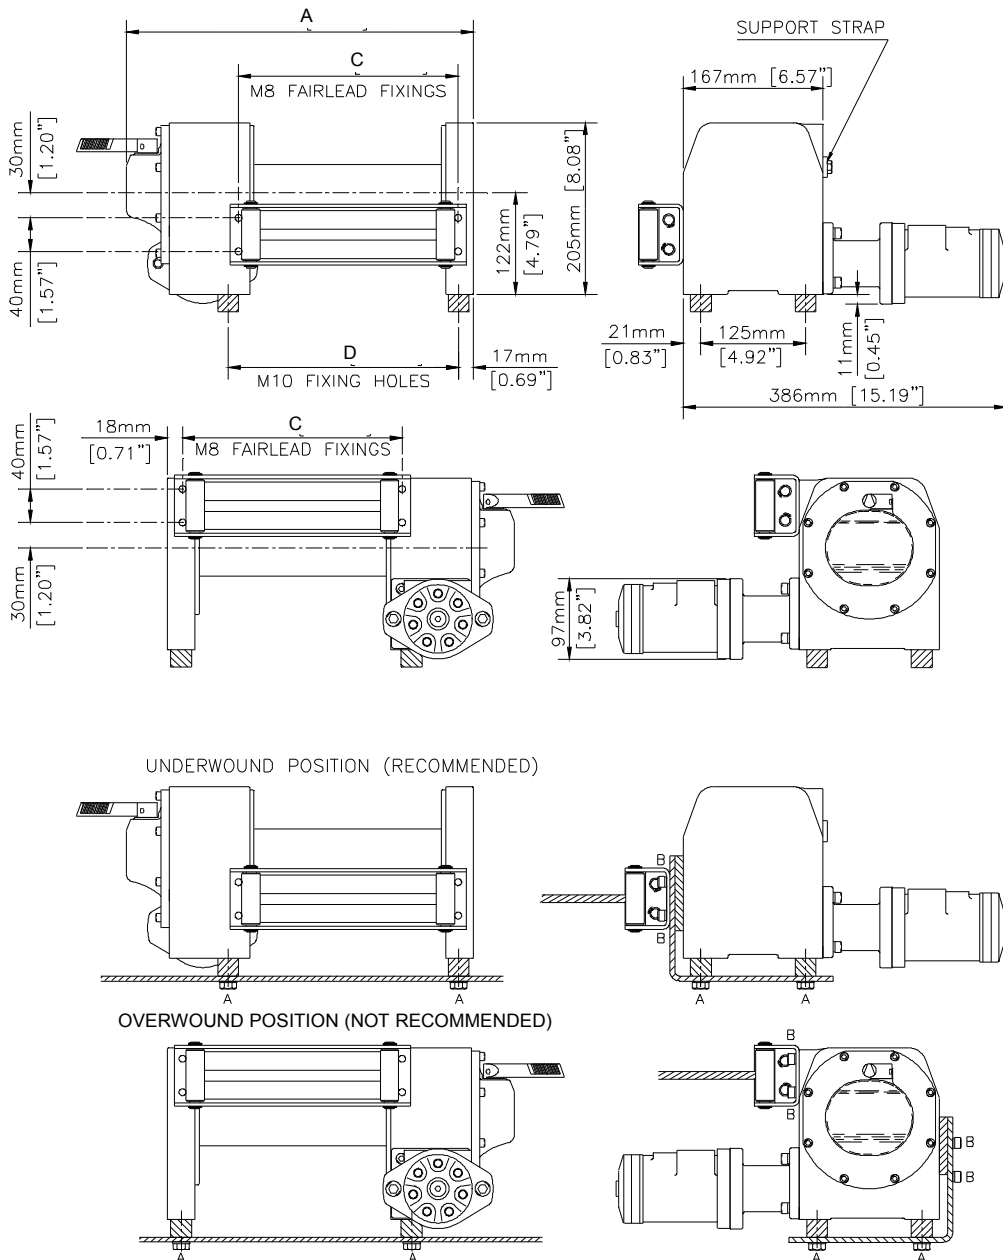

Fig. 3
2. Refer to the mounting diagram (Fig. 3). All dimensions are in mm.